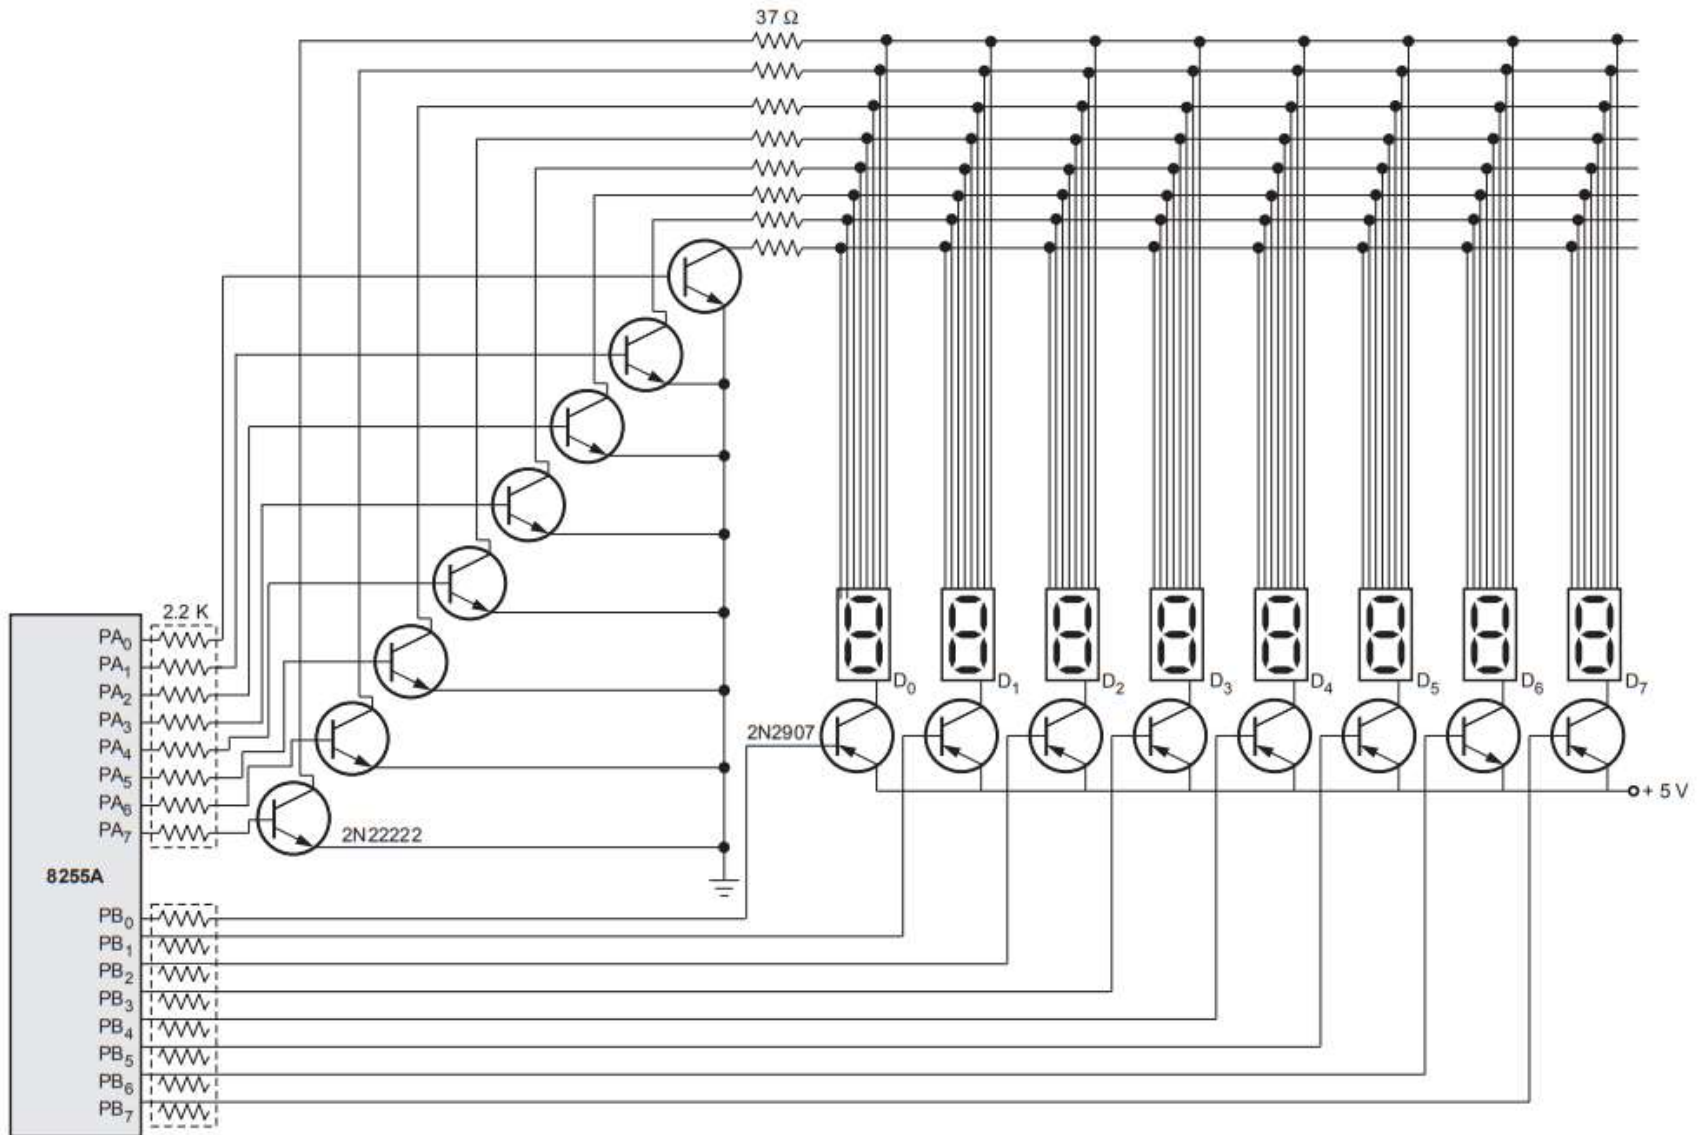

Fig. 3.6.3 Interface of 7 segment display through 8255 A
- Fig. 3.6.3 shows the 8255A connected to set of 8, seven segment LED displays.